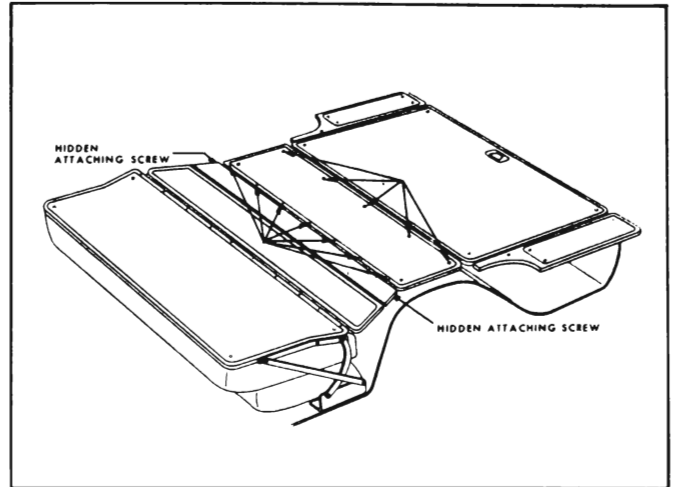

Figure 13-66 — Compartment Floor Panel Assembly
2. Remove rear floor filler panel to rear seat pan attaching screws as shown at "A" in Figure 13-66.
NOTE: Attaching screws are located at each end of panel (see "Hidden Attaching Screw", Figure 13-66).
4. Remove floor panel to spare tire cover hinge support panel attaching screws, shown at "B", Figure 13-66, and remove compartment floor panel assembly from body.